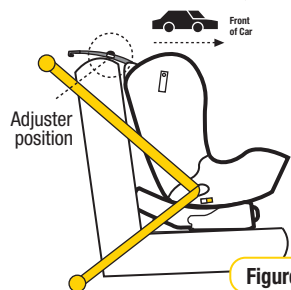

Figure 3
Step 2: Continue to shorten until you have reached the desired position at the rear of the restraint (see Figure 3).